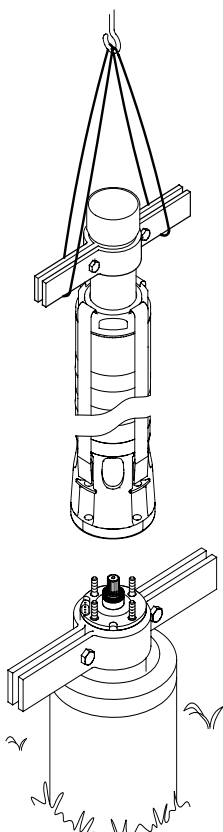

Fig. 19 Lifting the pump into position
- Lift the pump part by means of pipe clamps fitted to the extension pipe, see fig. 19.